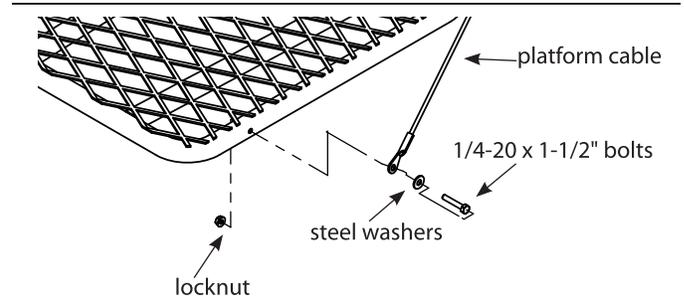

Figure 2
3. Bolt cables onto platform using the (2) provided 1/4 x 1-1/2" bolts, locknuts and steel washers. **SEE FIGURE 2. You must now tighten all nut & bolt assemblies. Be sure not to over tighten or crush tubing when tightening!**